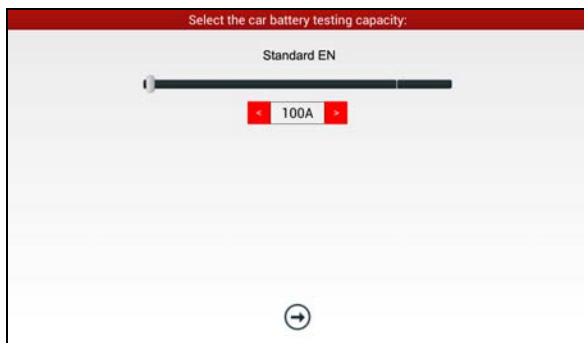

Fig. 11-6
6. Select a testing standard except for JIS and tap ➡, a screen similar to Fig. 11-6 will appear. Users can adjust capacity size by tapping on < or > or by dragging the slider on the bar.